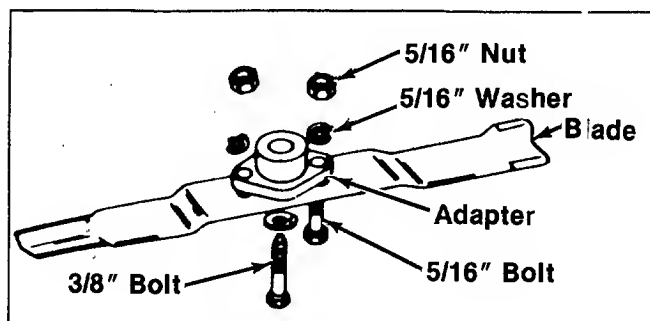

FIGURE 21.
1. Remove the large bolt and lock washer which holds the blade and adapter to the blade spindle. See figure 21.
3. If the blade or blade adapter needs replacing, remove the two small bolts, lock washers and nuts which hold the blade to the adapter. See figure 21.